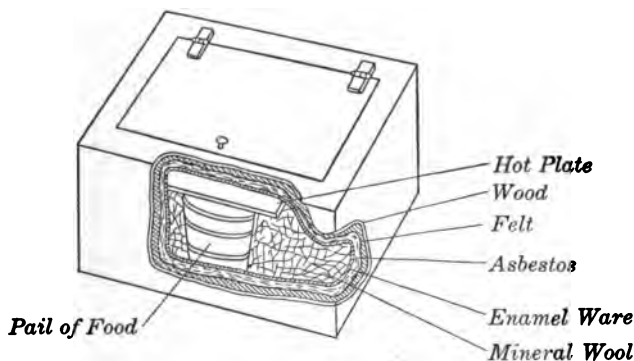

FIGURE 27. — THE FIRELESS COOKER.
51. The Fireless Cooker. — The fireless cooker is a box arrangement with non-conducting walls. Figure 27 shows how it is constructed.